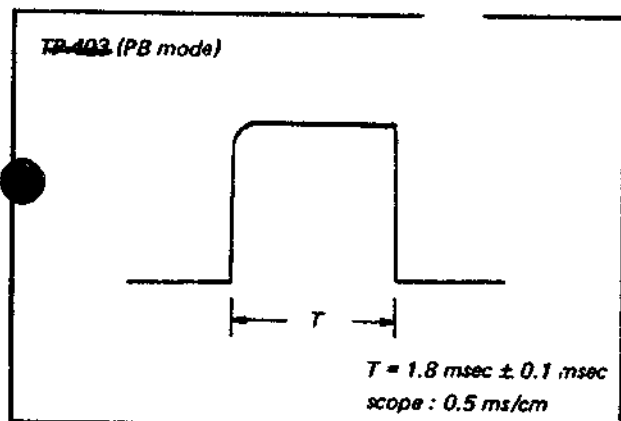

Fig. 6-11. Delay multivibrator adjustment (PB mode)
Adjust for: A pulse width of 1.8 msec. See Fig. 6-11.
4. Adjust R412 (PB Lock Phase) to produce 1.8 ms pulse width as shown in Fig. 6-11.